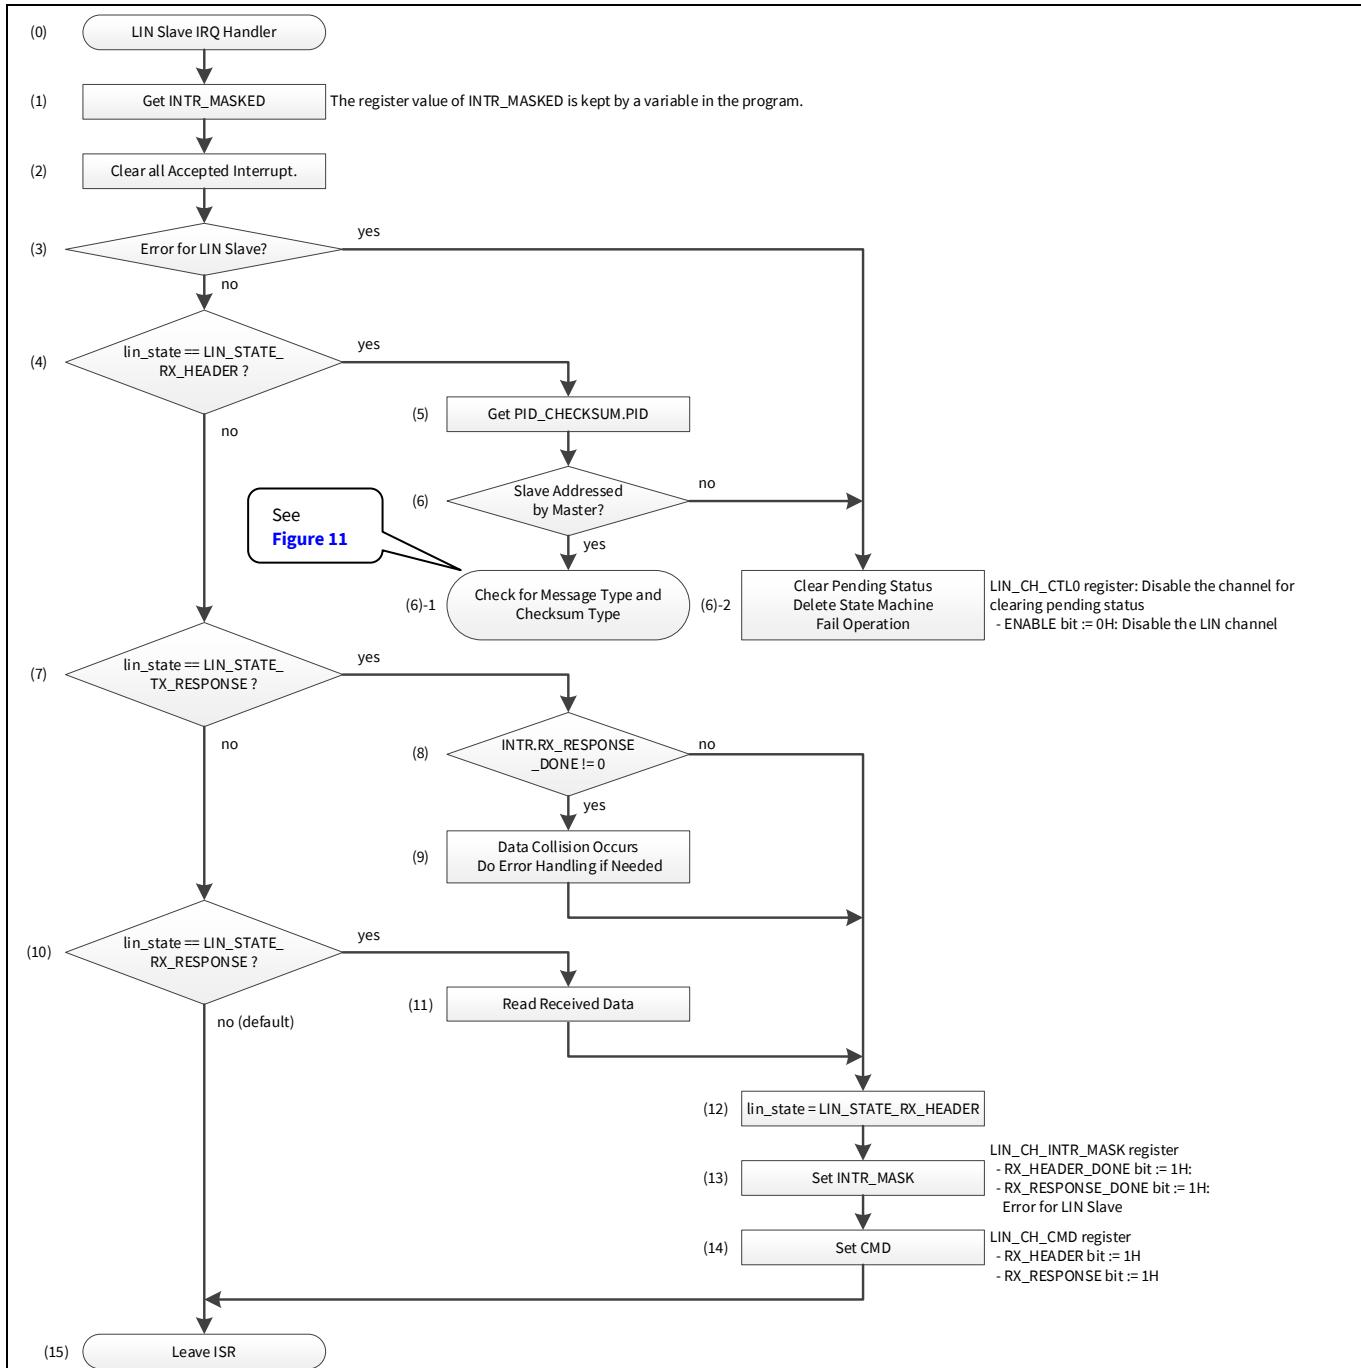
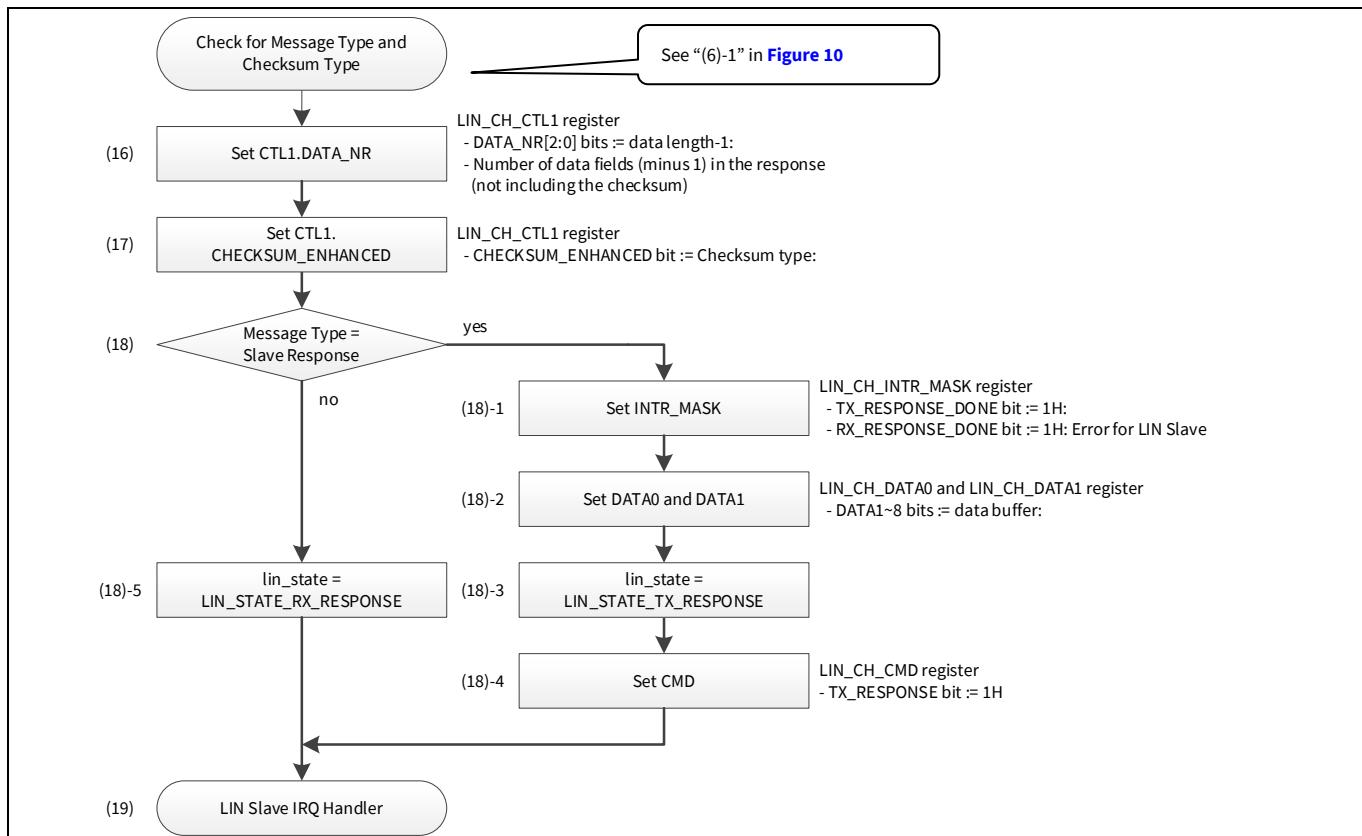

Figure 10 Example of LIN Slave IRQ Handler
Figure 11 Example of LIN Slave Checking for Message Type and Checksum Type
Figure 10 shows an example of how the LIN Slave IRQ handler works. This flow is used in Code Listing 18.
(6)-1 Go to (0) in Figure 11.
- (15) Return from LIN slave IRQ handler and wait for the occurrence of the configured LIN interrupt as Table 2.
Figure 11 shows how the message type and checksum type operations are performed. This flow is used in the case of jumping from (6) -1 in Figure 10 and in Code Listing 20.